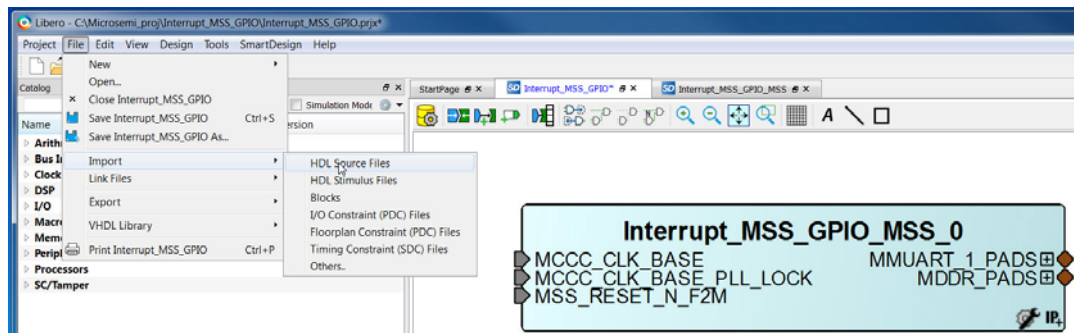

Figure 3-1 • Import Timer Block HDL File via Import HDL Source Files
1. Import the Timer Block HDL (File > Import > HDL Source Files) into the Project (Figure 3-1).